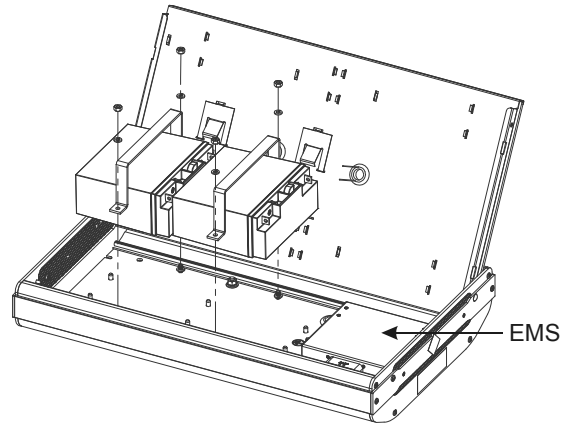

Figure 6-10: SE-20 Battery Installation
4. Insert the batteries into the solar engine with the tops facing toward the EMS; see Figure 6-10, 6-11 and 6-12.
5. Replace battery brackets onto mounting studs, secure with hardware and tighten; see Figure 6-10, 6-11 and 6-12.